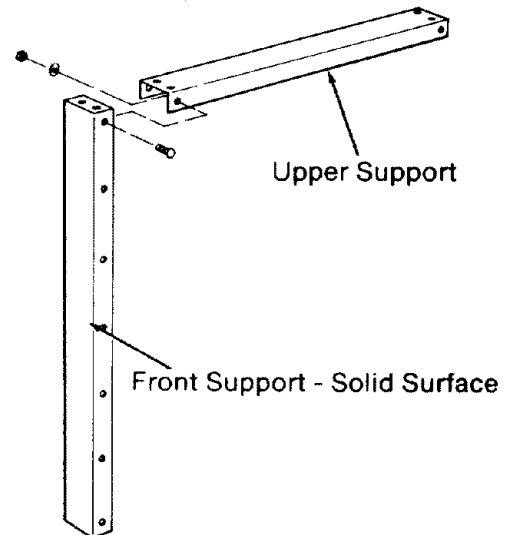

Fig. 57
41. Slide the *upper support* into the *front support* to form an inverted L-shaped unit. Four holes in each part should line up: two holes at the top of the "L", and one hole on each side. (Figure 57)